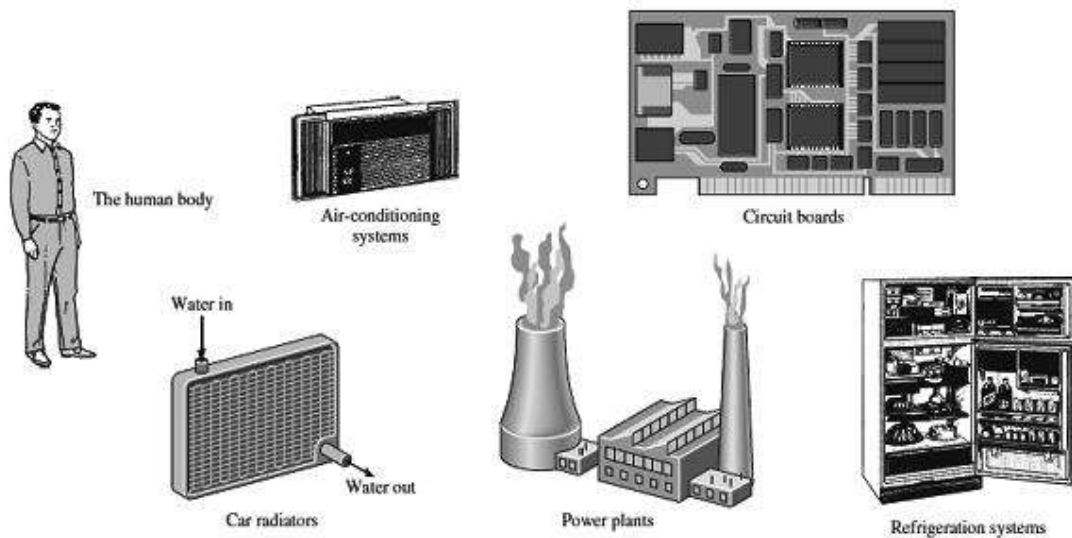

Fig. 1.3 Application of heat transfer
- The optimal insulation thickness in the walls and roofs of the houses, on hot water or steam pipes, or on water heaters is again determined on the basis of a heat transfer analysis with economic consideration (Figure 1.3)